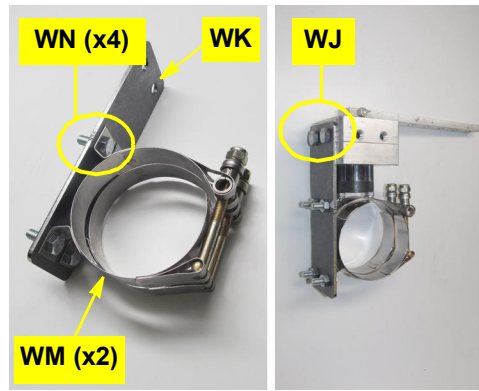

Figure 2a: WAS assembly mounting
- a. Using hardware **WN**, mount the two clamps **WM** on bracket **WK** (the holes at 2-3/4" centers). Set the clamps with their nuts toward the remaining two holes (Figure 2a, left).
- b. Using hardware **WJ**, mount WAS assembly from step 1 on the clamp side of bracket **WK**. (With the clamps toward you, mount the WAS assembly with its connector and arm to the right—Figure 2a, right)